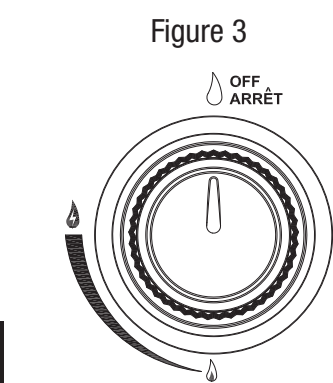

Figure 3
1. Make sure the control knob is in the "OFF" position (Figure 3).
1. Turn the control knob to the "OFF" position (Figure 3).
2. Make sure control knob is in the "OFF" position (Figure 3).
2. Control knob must be in the "OFF" position (Figure 3).
1. Turn control knob to the "OFF" position (Figure 3). Note: A "poof" sound is normal as the last of the LP gas is burned.